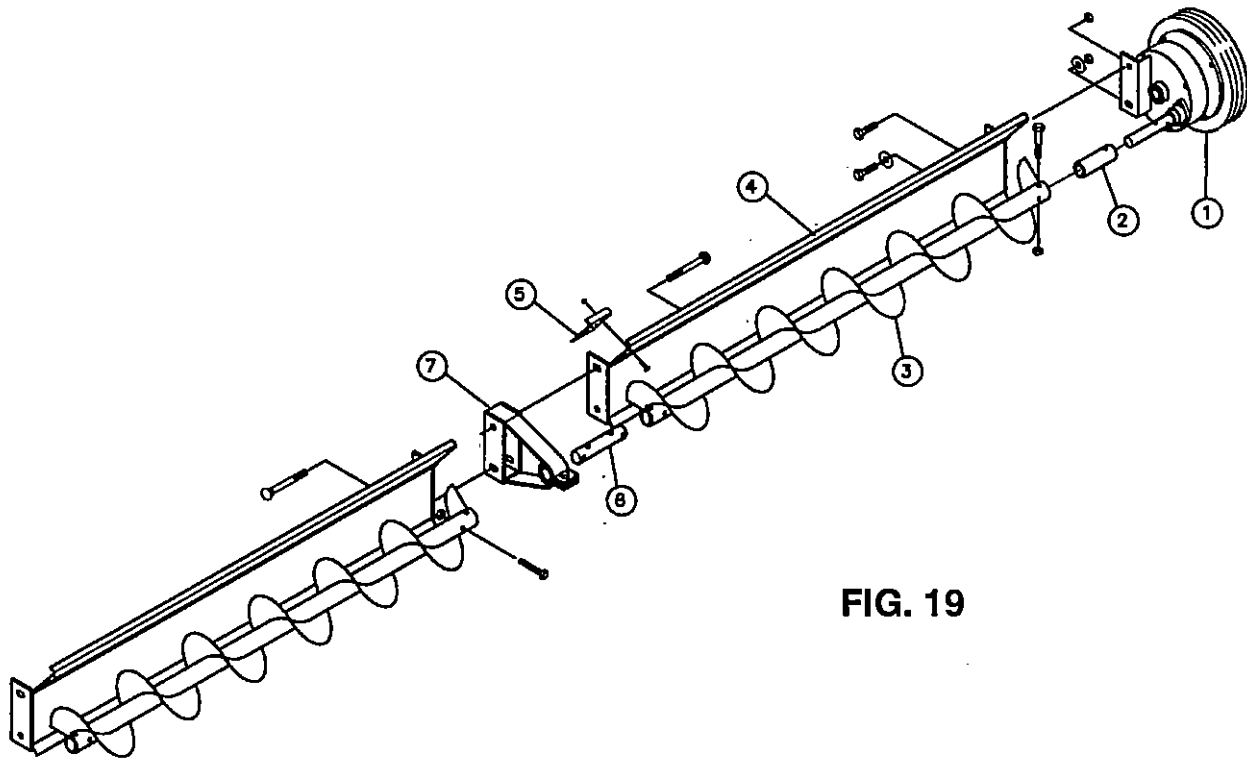

FIG. 19
10. Assemble the sweep wheel to flight and shield. (See Fig. 19.) Add grease to sweep wheel drive enclosure. (See page 11.)